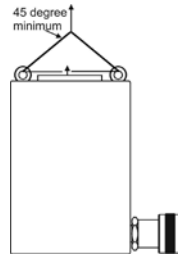

Figure 1.
- ⚠ **WARNING:** Hoisting Cylinder - always use all of the eye bolts when hoisting cylinder. Failure to use all of the eyebolts could cause the cylinder to drop unexpectedly. Lifting straps must be at a 45 degree or greater angle from horizontal. See Figure 1 (below).